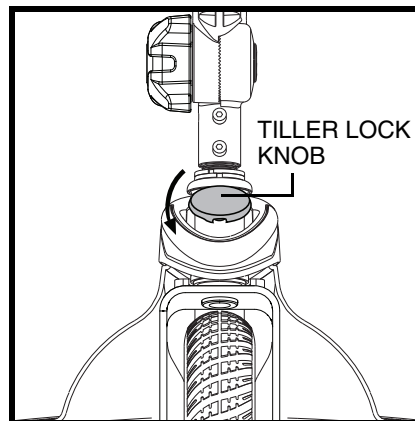

Figure 18. Tiller Lock Knob (Unlocked)
9. Unlock the front wheel by turning the tiller lock knob 90° counterclockwise. See figure 18.